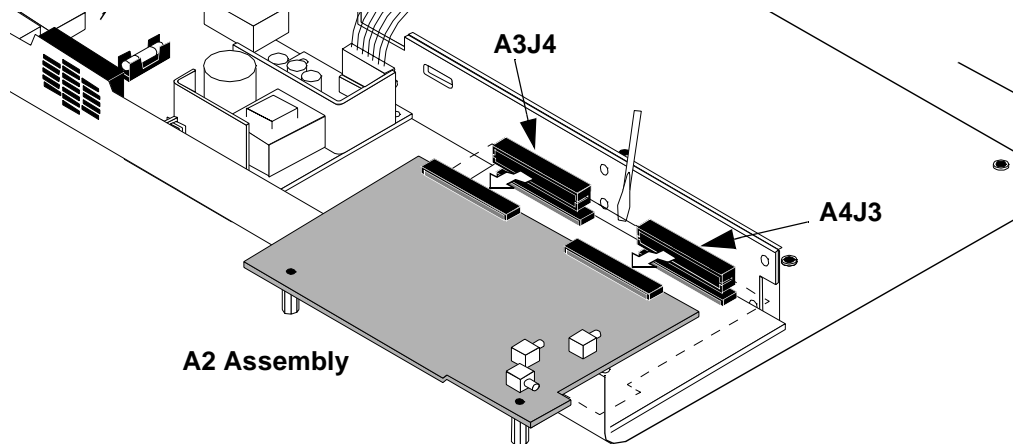

Figure 35 Removing the A2 Assembly
6. With a flat blade screwdriver wedged between the A2 assembly and the A3 assembly, carefully push and tilt the end of the A2 assembly over the edge of the deck to unplug it from the J3 and J4 connectors, see figure 35 .